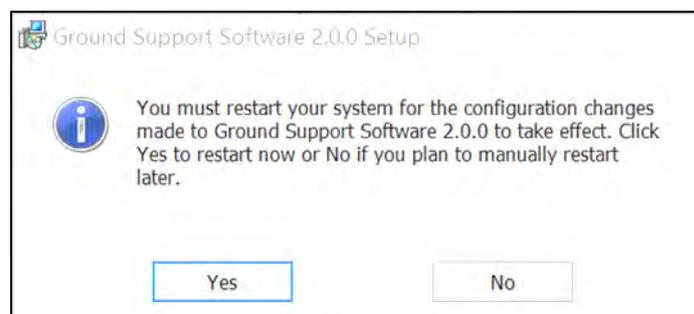
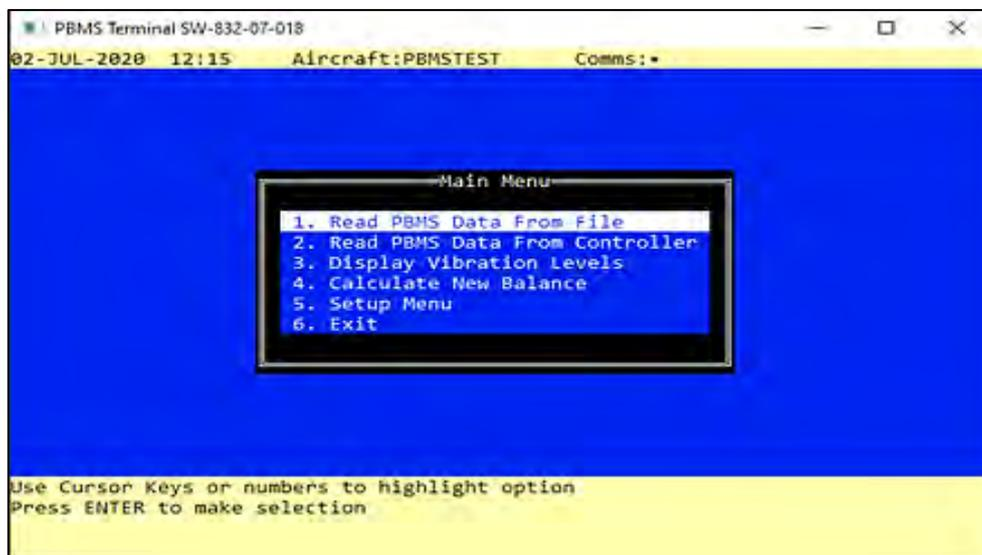

Figure 3-6 Restart
Figure 3-9 Main Menu
- (c) You will then need to restart your system for changes to take effect. Select **Yes/ No** depending on your requirements. (**Ref Fig 3-6**).
- (8) The Main Menu will be shown on the PBMS Terminal Display (Ref Fig 3-9).
Note: During this Sequence, the screen below will be shown (**Ref Fig 3-6**) on the PBMS Terminal Display. On completion, if successful the Main Menu will be displayed (**Ref Fig 3-9**).